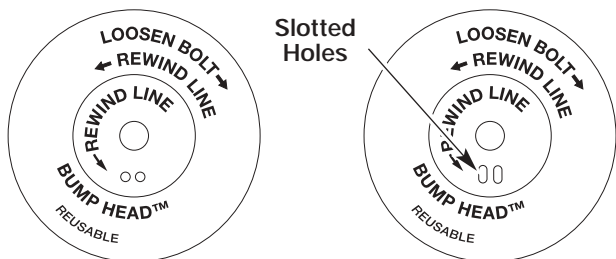

Figure 34
**NOTE:** SplitLine™ can only be used with the inner reel with the slotted holes. Single line can be used on either type of inner reel. Use Figure 34 to identify the inner reel you have.